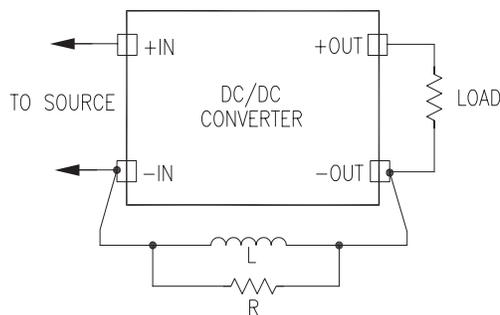

FIGURE 4b.
2. Use a DC connection only and block the AC component of the common mode noise. This can be done by using a Low Q inductor between the grounds. The inductor must have sufficient impedance at the switching frequency to be at least 5 to 10 times larger in impedance than the measured stray circuit capacitance's impedance. To keep the Q low (necessary to prevent resonant peaking of the impedance), use a 100 ohm to 10K ohm shunt resistor across the inductor. This method gives a solid DC ground but blocks the common mode current from flowing in the connection (see Figure 4b.)